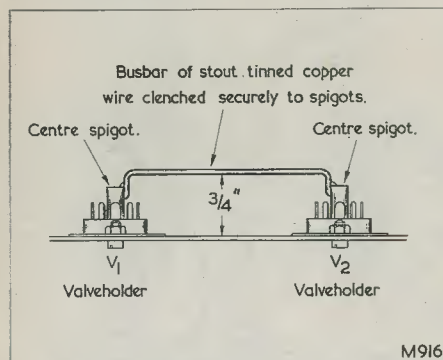

Fig. 5. Side view, showing how the busbar is fitted between the centre spigots of V_1 and V_2
30. With stout, unsleeved, tinned copper wire, form a busbar between the centre spigots of V_1 and V_2 valveholders in the manner shown in Fig. 5. Clench the wire securely to the centre spigots and solder at the V_2 spigot only.